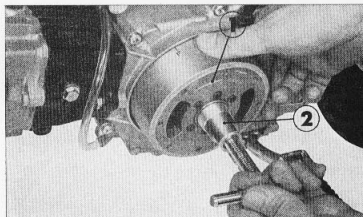

Figure 7. ① Flywheel generator ② Flywheel puller
4. Remove the flywheel using the flywheel puller (Tool No. 07933-0010000) and then remove the stator assembly. (Fig. 7)